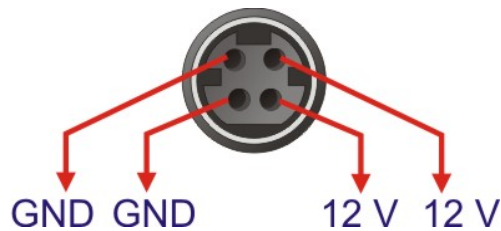

Figure 3-25: 4-pin Power Mini-DIN Connection
- CN Pinouts:** See **Figure 3-25**